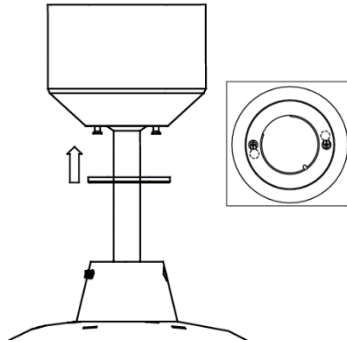

Fig. 6
- Cover the mounting bracket with the canopy cover. Ensure all electrical wirings are tucked inside the canopy and that it is not damaged during this step then secure with screws. **Fig. 6**
Finally attach the canopy cover to the canopy screws by turning it clockwise. **Fig. 6**